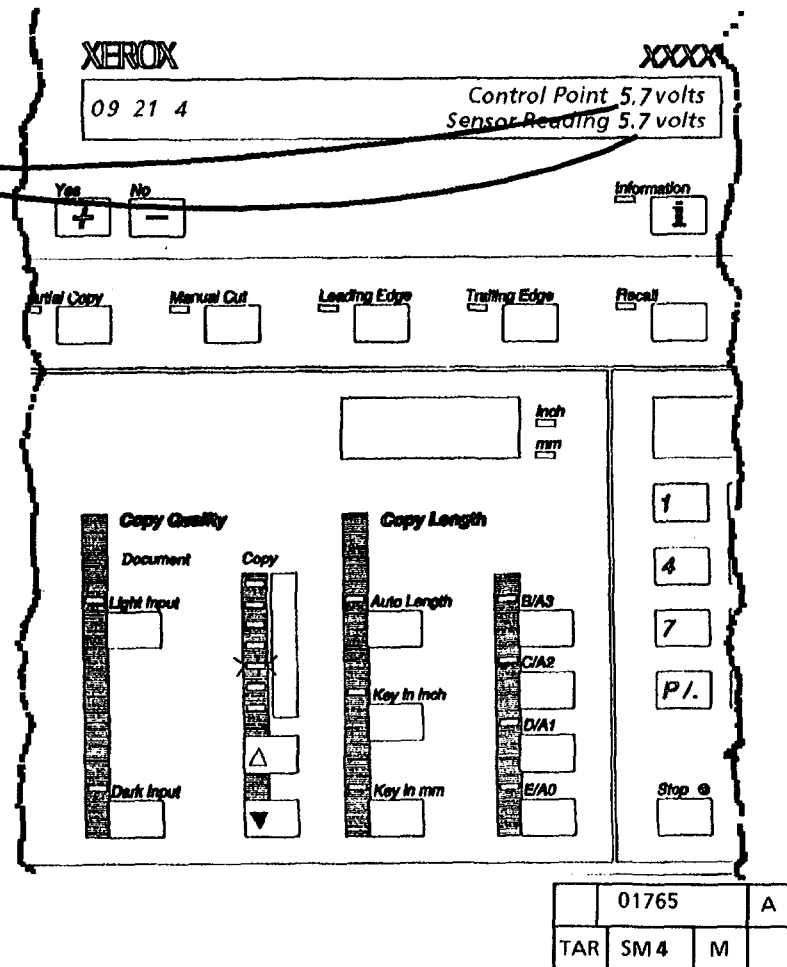

Figure 2. Verify the Toner Sensor Voltage
8. (Figure 2): Verify that the toner sensor voltage has been decreased.